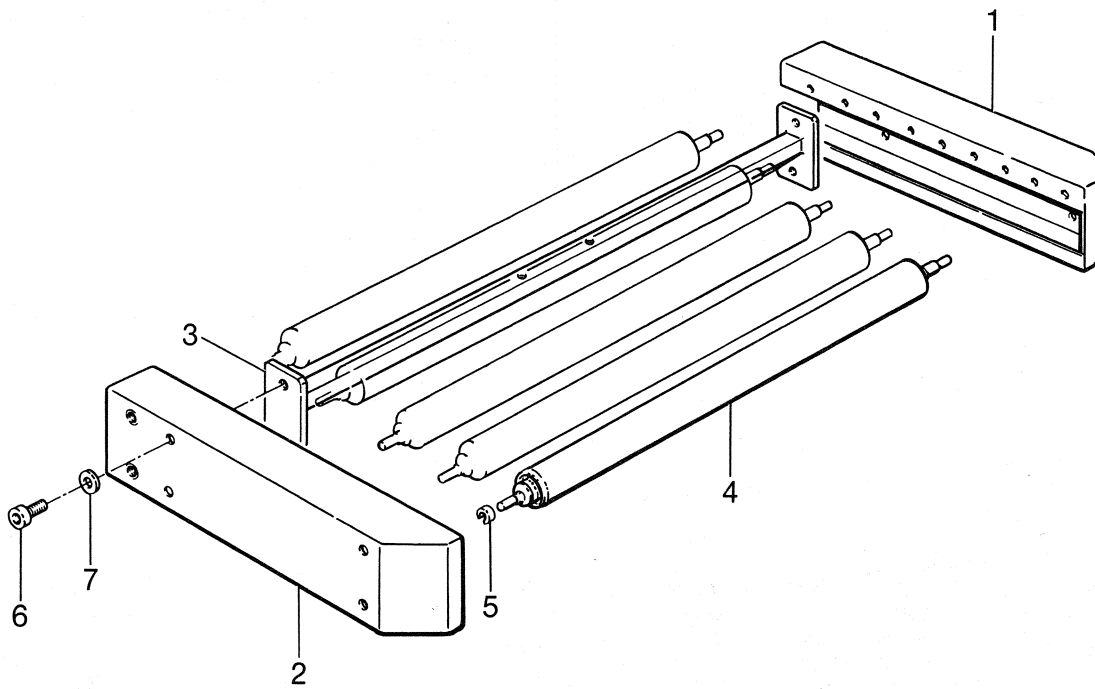

Figure 3 - Parts Illustration
1. Refer to Parts Illustration Figure 3 to find part needed and reference number.